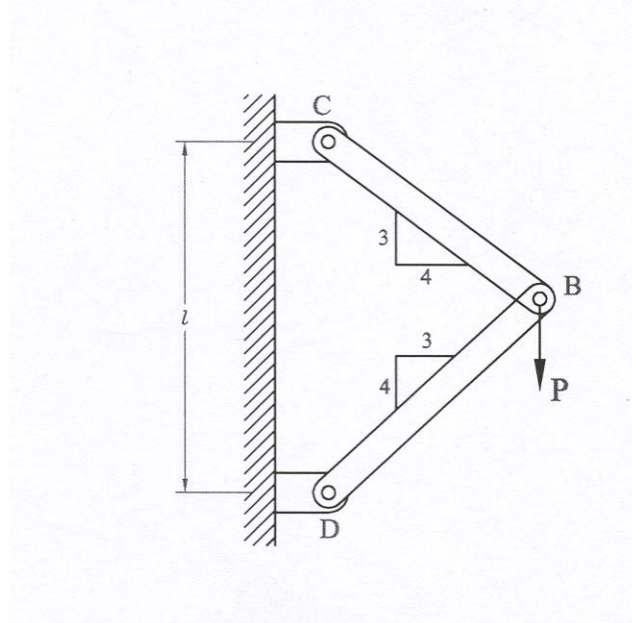

Figure 6/Gambarajah 6
6. A load P is supported at B by two uniform rods of the same material and of the same uniform cross section of area A as shown in **Figure 6**. Determine the strain energy and the vertical deflection of point B of the system. Parameters P , A , E and ℓ are known.